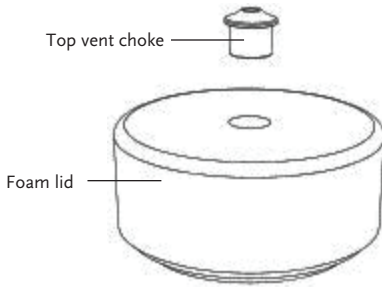

Figure 4
- Insert the top vent choke into the foam lid from the top side of the lid. (**IMPORTANT: The tapered flange should be on the outside of the CoolCell FTS30**) (Fig. 4 and 5)